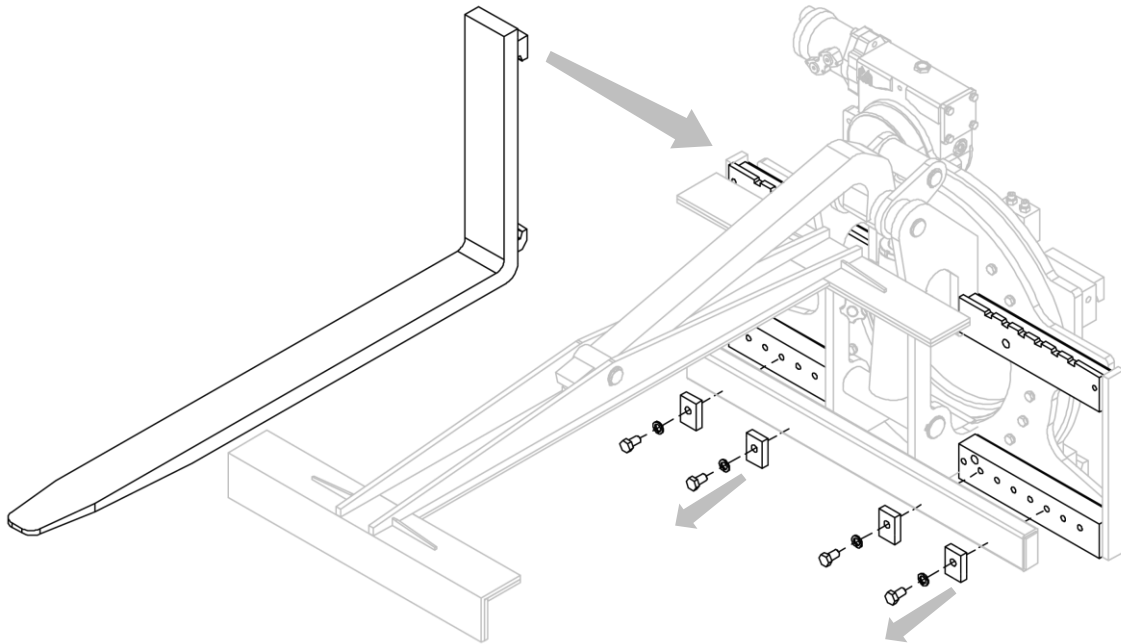

Figure 11
1. Attach the forks in the desired position after unscrewing the fork stops (see *Figure 11*).